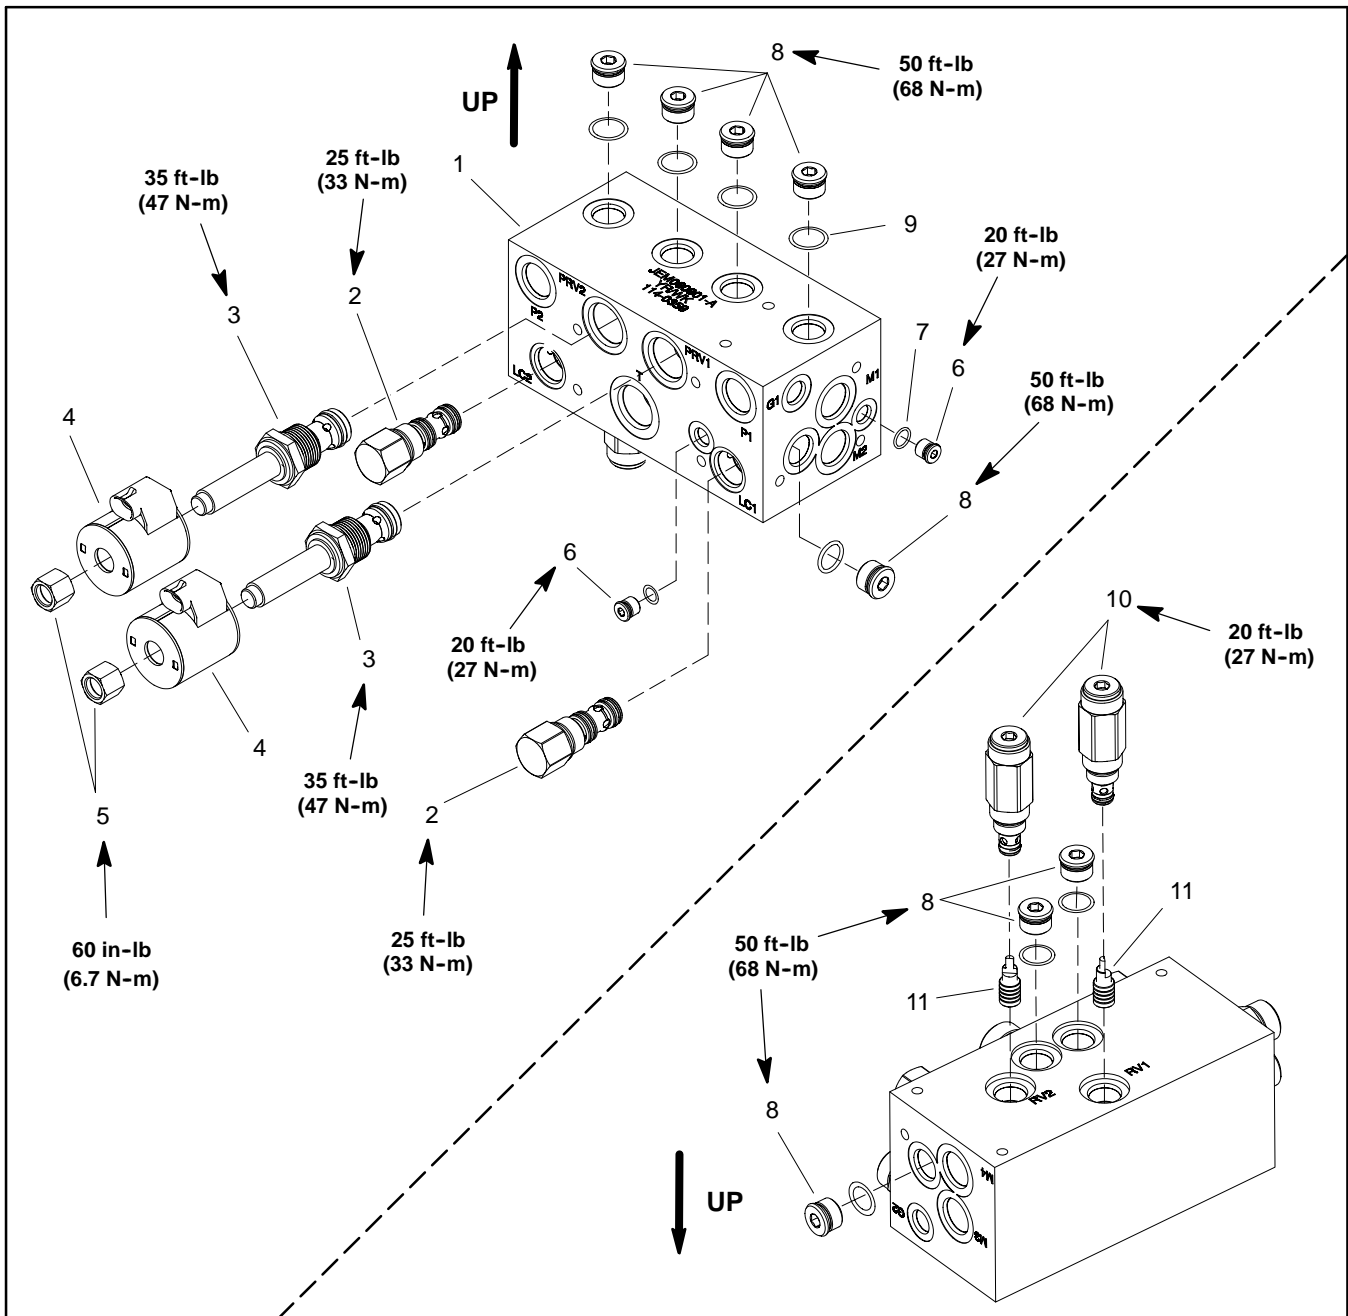

Figure 81
NOTE: The deck control manifold uses several zero leak plugs. These plugs have a tapered sealing surface on the plug head that is designed to resist vibration induced plug loosening. The zero leak plugs also have an O-ring to provide a secondary seal. If zero leak plug removal is necessary, lightly rap the plug head using a punch and hammer before using an allen wrench to remove the plug: the impact will allow plug removal with less chance of damage to the socket head of the plug. When installing plugs into the control manifold, torque plugs to the values identified in Figures 81.
C. Torque cartridge valve using a deep well socket to values identified in Figure 81.